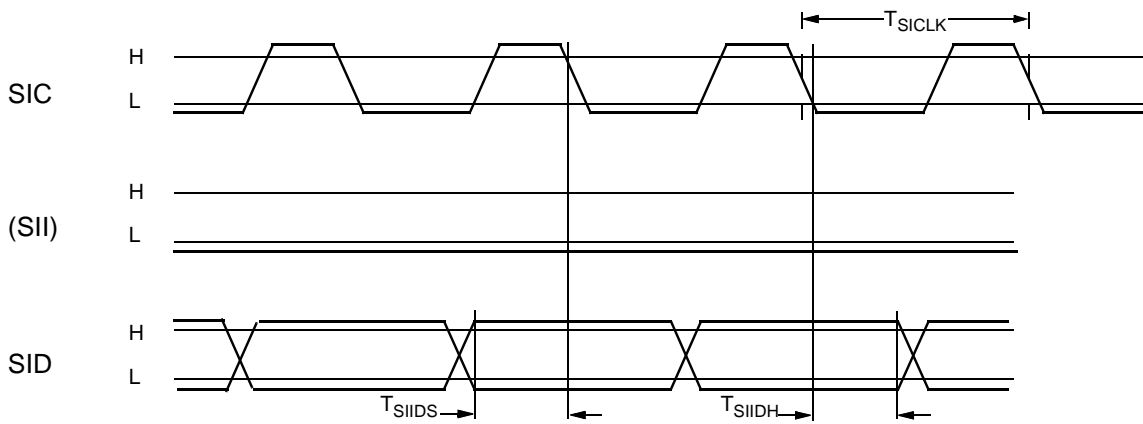

Fig. 4–17: Serial input
- Fig. 4–1: Outline Dimension for PLCC44 changed
- Fig. 4–2: PQFP44 package diagram changed
- Fig. 4–3 and Fig. 4–4: Pin configurations added